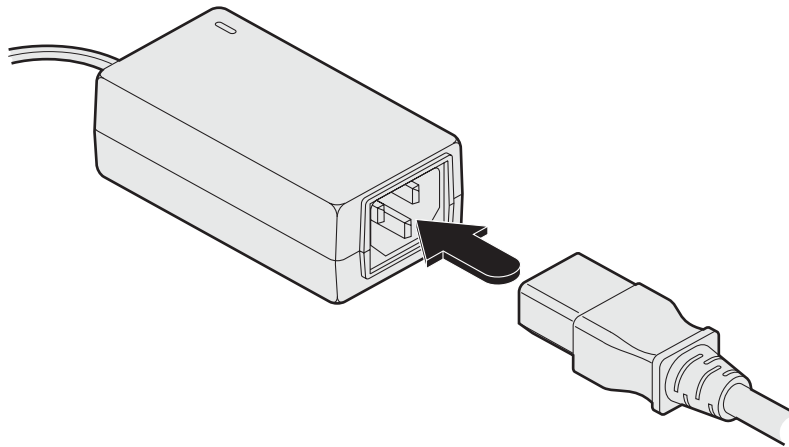

Figure 3-6. Attaching the IEC connector of the power lead to the adapter.
2. Connect the IEC connector of the supplied country-specific power lead to the socket of the power adapter. See Figure 3-6.